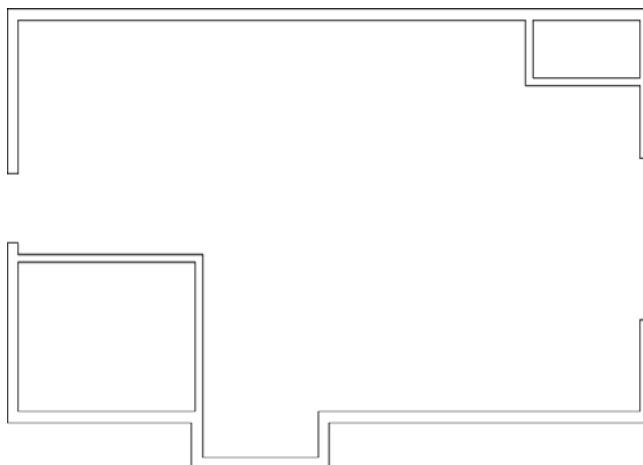

FIGURE 4.34 The cabin with the **7'-0"** (2134 mm) sliding door opening
3. Use the Trim Fence option used to clean up the **3'-0"** opening to complete the opening. Your cabin should look like Figure 4.34.